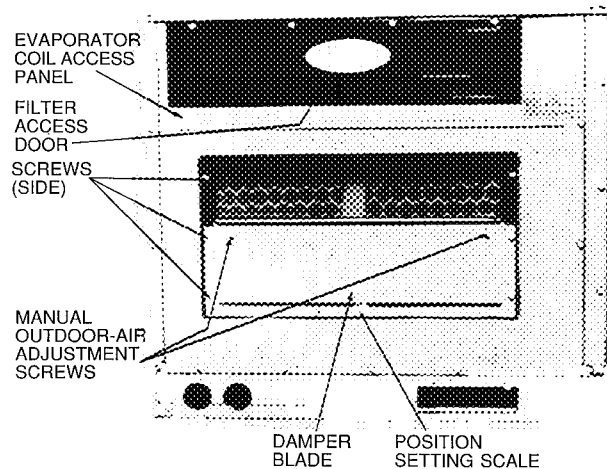
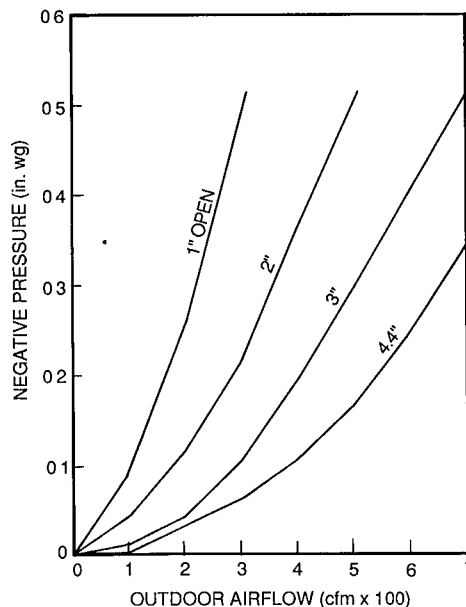

Fig. 11 – Damper Panel With Manual Outdoor-Air Damper Installed
Fig. 14 - Position Setting
- Remove and save evaporator coil access panel and screws. See Fig. 11.
the front of the damper blade. See Fig. 11. Slide blade vertically until it is in the appropriate position determined by Fig. 14. Tighten screws.